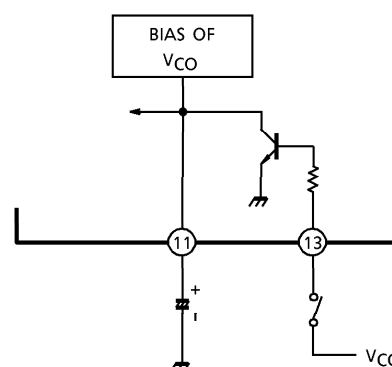
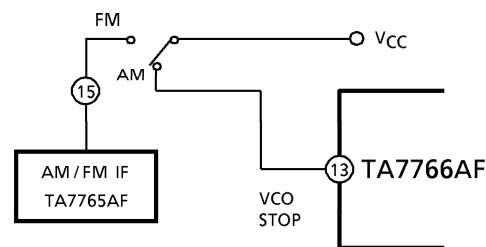

Fig.4
Fig.5
(4) Compulsive monaural function
In case that the terminal pin⑬ is connected to  $V_{CC}$  as Fig.4, this item becomes compulsive monaural mode. That causes the VCO stopping. Connected as Fig.5, switchover between AM / FM mode is possible with one-make switch.